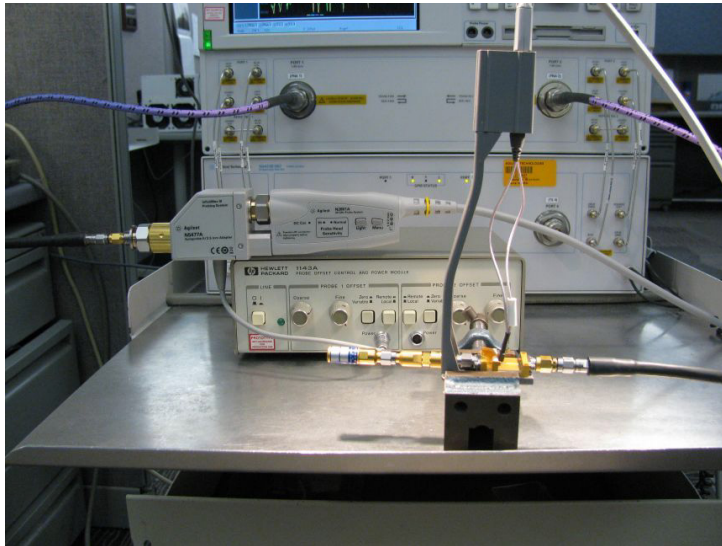

Figure 65 Setup to measure “Vout” of probe
- 10 Now move the 2.92 mm male test port 1 connector to the 5062_1247 adapter and N5477A Autoprobe II adapter assembly. Connect the Maury Microwave 8775B2 2.92 mm male broadband load to the 1250_1749 adaptor and N5443A PV fixture assembly. This new setup is shown in **Figure 65**. Torque all connections.